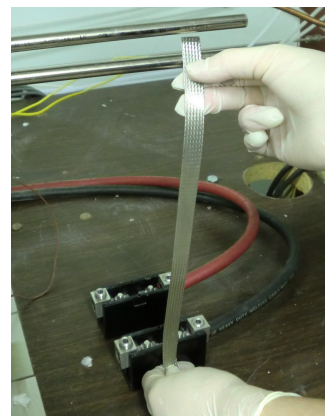

Figure 2
2. Measure the distance from your manifold tubes to your current collection system (Figure 2). Cut the included copper braided leads into 4 pieces, each a slightly longer length than the measured distance.